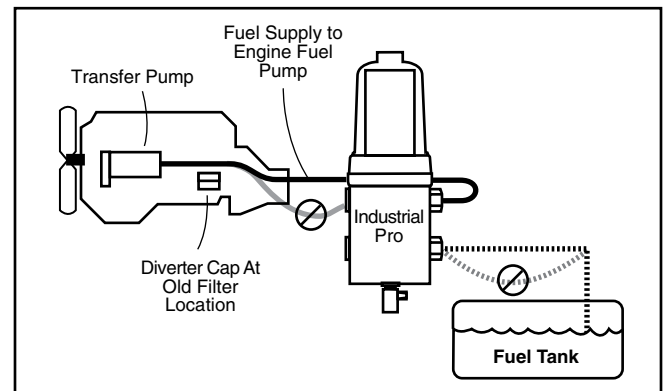

Figure 1 - Industrial Pro Connections
6. Route the fuel supply line from the fuel tank to the Industrial Pro inlet (see Figure 1). Route a fuel line from the Industrial Pro outlet to the fuel pump inlet.